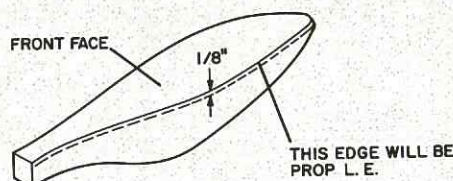

FIGURE 4.
4) Making sure that your prop is to be right or left-handed (we show R.H. here), draw a line about 1/8" away from the front face on the appropriate side view. See Fig. 4.